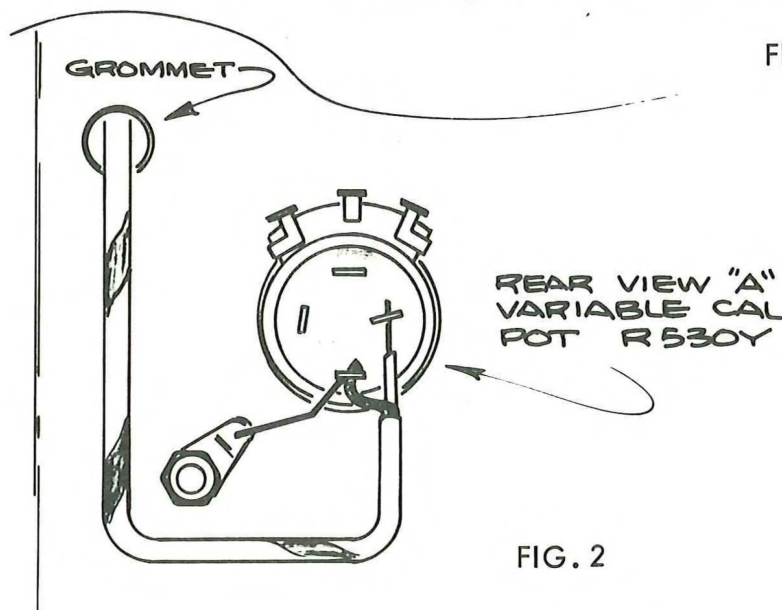

FIG. 2
- Solder the opposite end of the cable to the "A VARIABLE CAL" potentiometer, as shown in Fig. 2.